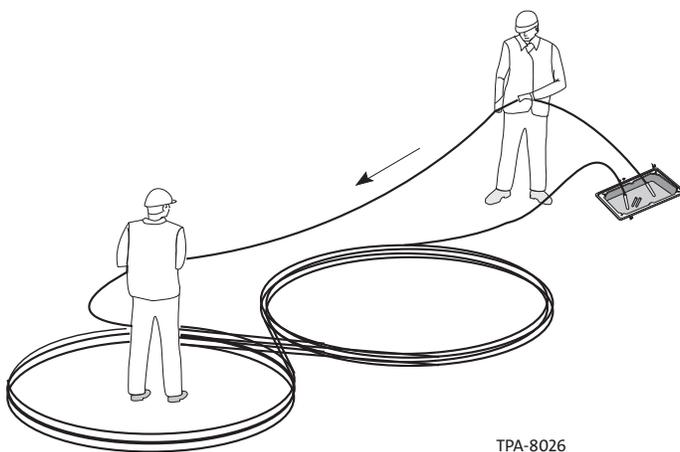
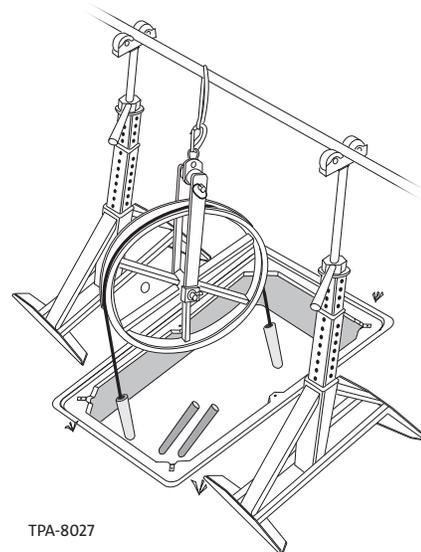

Figure 10
Figure 11
- 6.3 Longer continuous pulls can be accomplished by hand assisting the cable (Figure 10) or by setting up intermediate centering sheave (Figure 11) or assist winches at bends at cable access points.